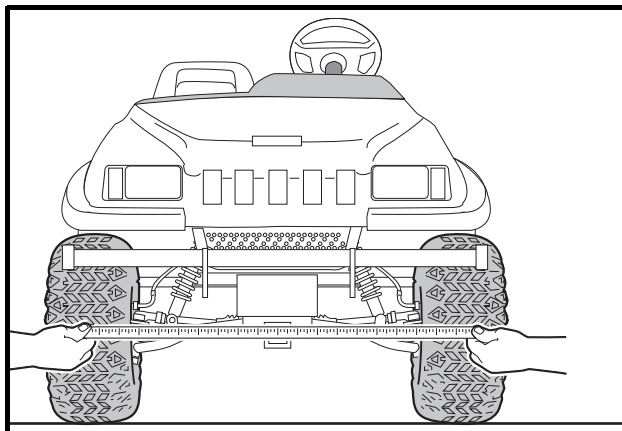

Figure 7-24 Measure Toe-in
4. Measure the distance between the marks on the forward-facing surfaces of the tires (**Figure 7-24, Page 7-13**). **See following NOTE.**